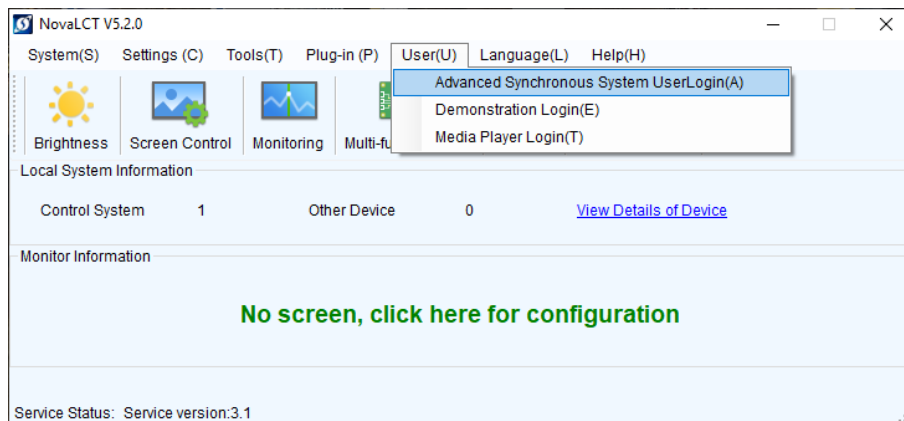

Figure 88: Advanced User Login
Step 2) Click the **User(U)** menu and select **Advanced Synchronous System User Login(A)** (see Figure 88).